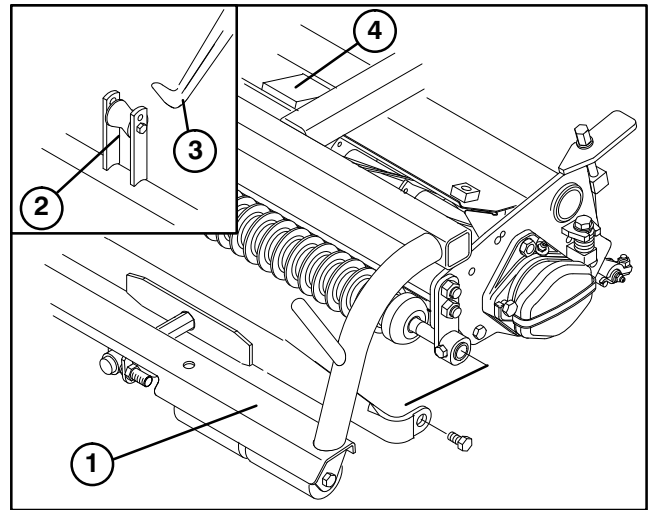

Figure 8
3. Mount traction unit pull frame to cutting unit with (2) shoulder bolts.
4. Affix a rubber pad to each cutting unit shield, positioning it directly under lift arm (Fig. 8).